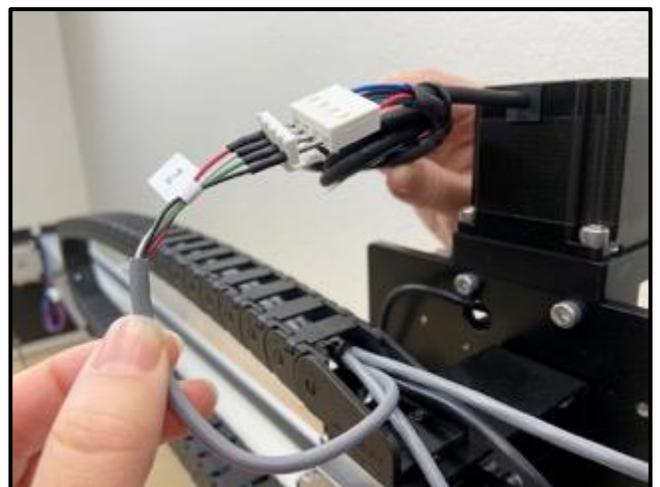

Figure 8-10
1. Connect the black Z-motor leads to the gray 4-pin extension cable labeled “Z.” See **Figure 8-10**.